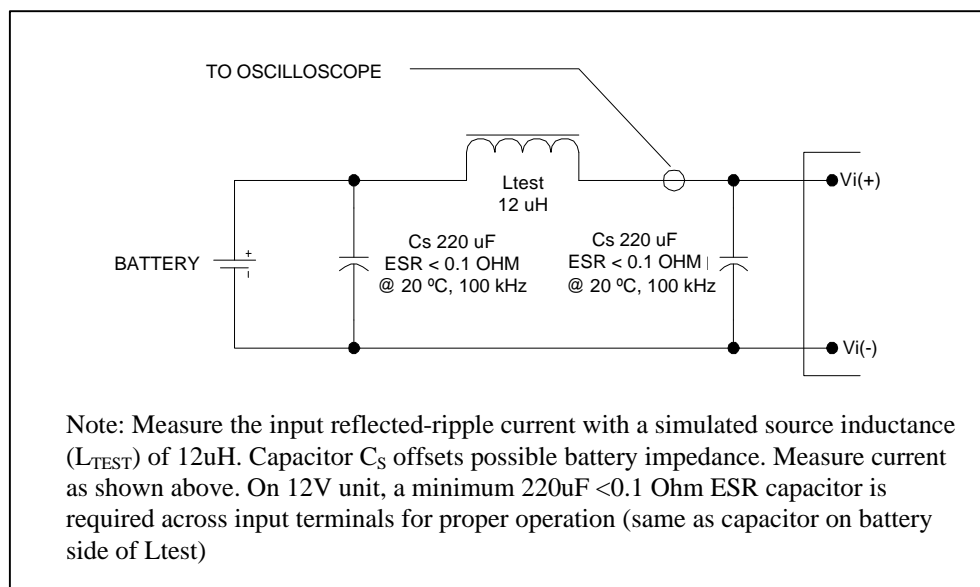

Figure 1. Input Reflected -Ripple Test Setup.
2. See Figure 1 for the Input Reflected-Ripple Current Test Setup.